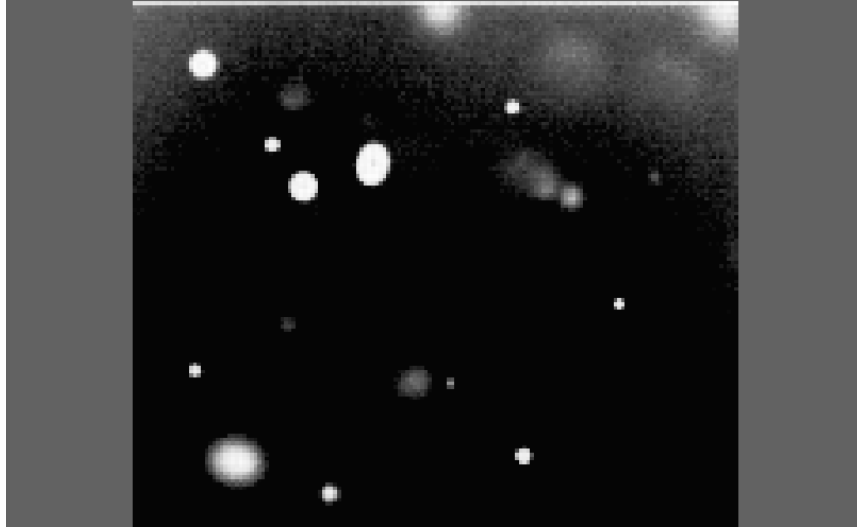

Figure 2
- The **Reverse** filter reverses the pixel values of an image, in effect creating a “negative” of the image (Figure 2). The rationale for using this filter is that, logistically, it will be far easier to isolate and track bright particles on a dark background than vice versa. Likewise, it will be necessary to filter out the background noise present in the upper part of the video image. The **Reverse** filter simplifies this task considerably.